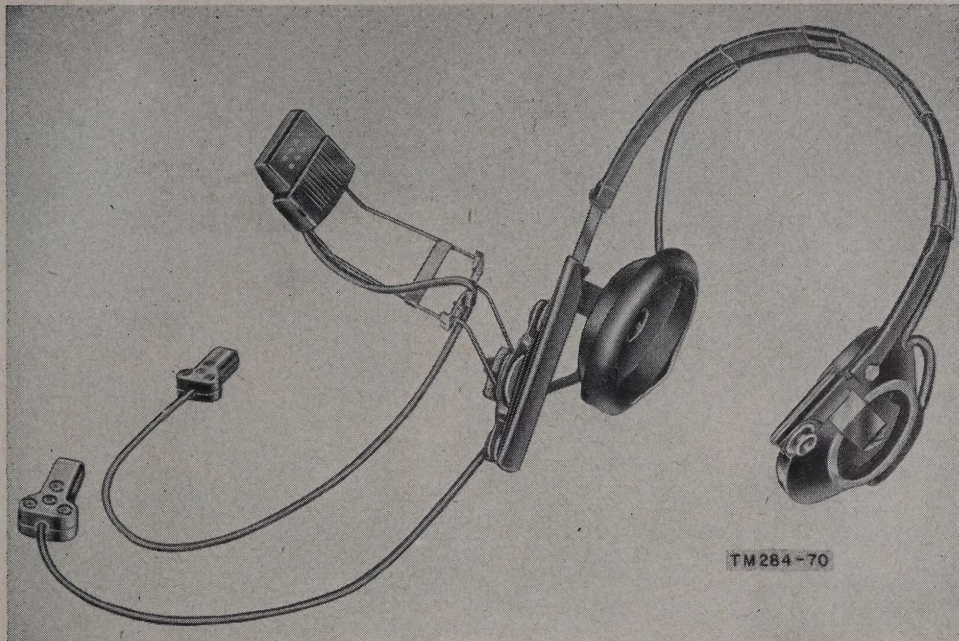

Figure 16. Headset-Microphone H-63/U.
c. Headset-Microphone H-63/U. Headset Microphone H-63/U (fig. 16) consists of two series-connected 300-ohm earpieces and a 40-ohm microphone. The microphone is mounted on an adjustable boom attached to the receiver head-